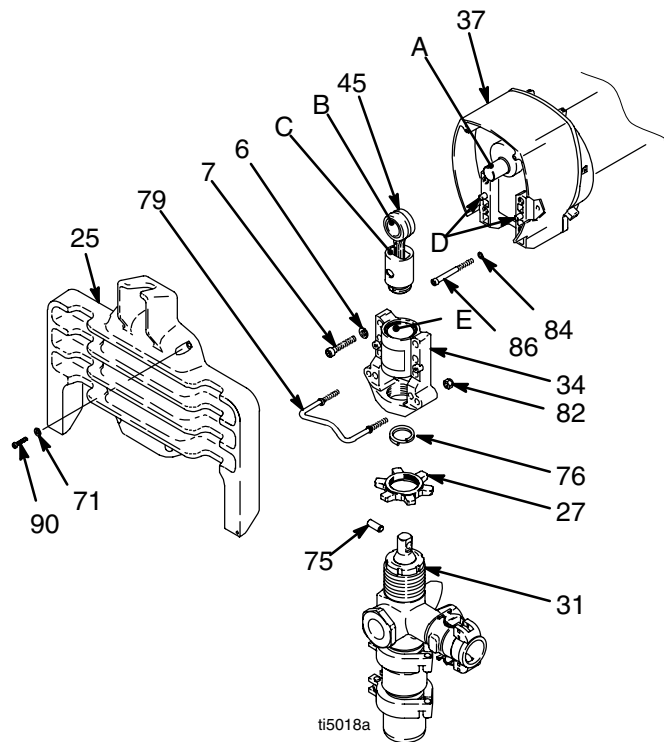

Fig. 19
2. Fig. 19. Do **Pump Repair, Removal**, page 18.
3. Tip motor/drive housing assembly horizontal. Remove four screws (90), washers (71) and gear housing base (25).
4. Remove four screws (7) and lockwashers (6) from bearing housing (34).
5. Pull connecting rod assembly (45) and lightly tap lower rear of bearing housing (34) with a plastic mallet to loosen it from drive housing (37). Pull bearing housing and connecting rod assembly off drive housing.
6. Inspect crank (A) for excessive wear and replace drive housing, if necessary, page 22.